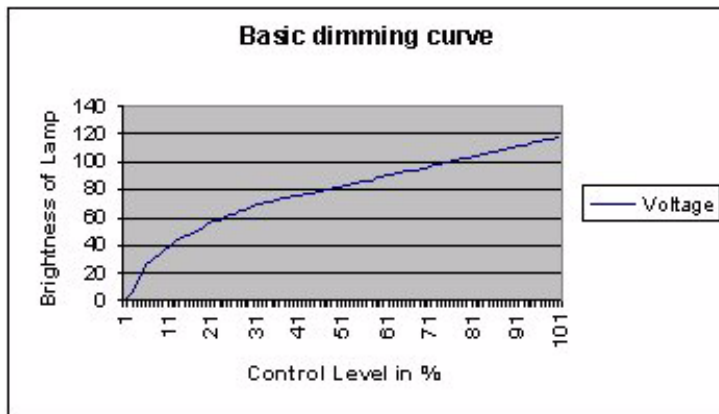

FIG. 38 Basic dimming curve
The AMX test fixture for incandescent tests was set up using a constant Voltage feed of 120 VAC to the dimmer. The output of the dimmer was connected to (6) 100W GE lamps with a total load of 5 Amps. All fluorescent tests were done using the RDM-HDC module connected to a (2) lamp Advance Mark VII ballast using T-8 rapid start lamps. These curve plots are to be used as a relative guide to determining optimum performance. Actual field performance and measurements will be similar but not equal. FIG. 38 shows a basic dimming curve.